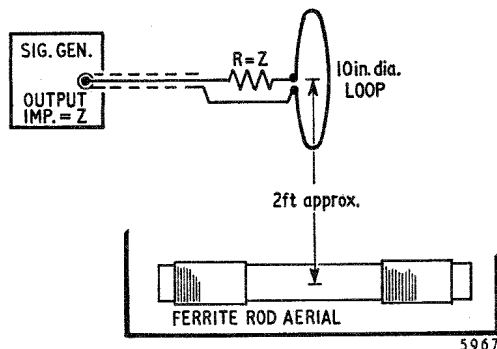

Fig. 1 Signal Generator coupling.
(c) Loop aerial (a loop of insulated wire see Fig. 1).
- Instrument connection:** (a) The output from the signal generator should be coupled by a 10 in. diameter loop of wire in series with a resistor of a value to match the output impedance of the generator. The loop should be placed about two feet from the receiver with its plane at right angles to the ferrite rod aerial. See Fig. 1.
(b) Connect the output meter and the Oscilloscope in parallel across the terminals P7 (chassis) and P8 Fig. 1, location E3.